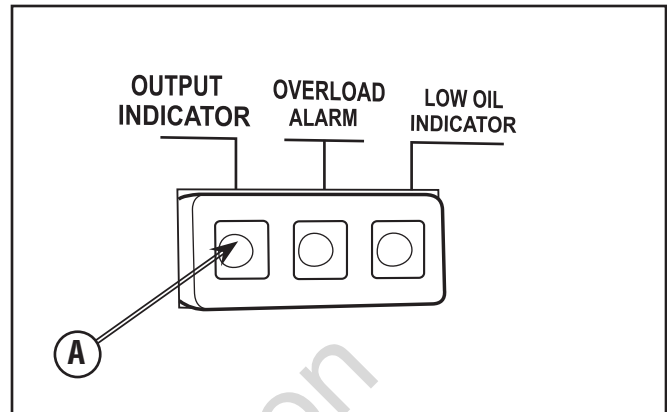

Figure 60
- Check the output indicator (A, Figure 60). If the green LED is illuminated, check the plug connection and check for loose wires.